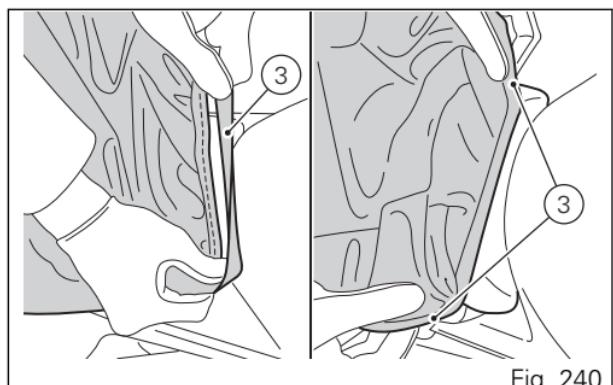

Fig. 240
Insert the band (3) in the front part of the seat by letting it pass through the slot between seat and fuel tank as shown in (Fig. 240).